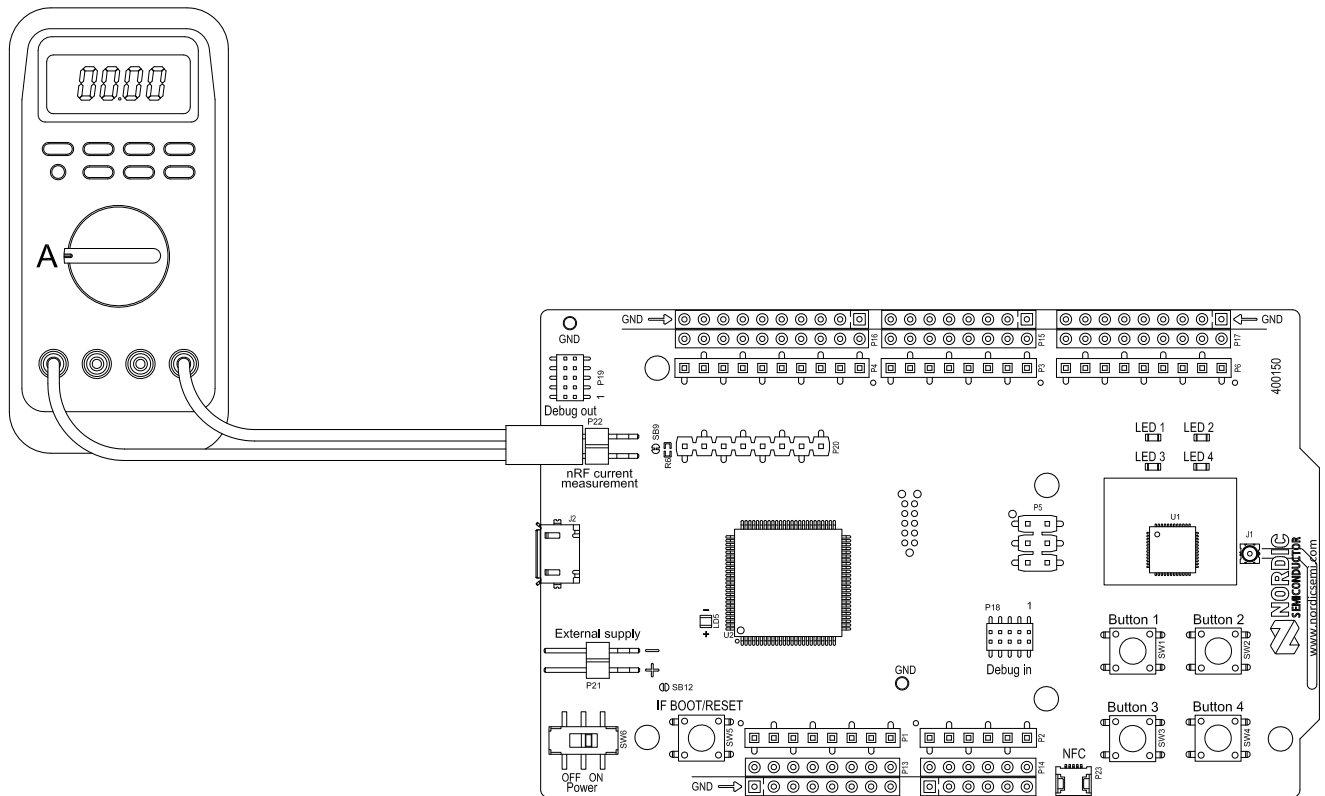

Figure 19: Current measurement with an ampere-meter
2. Connect an ampere-meter between the pins of connector **P22** as shown in Figure 19: Current measurement with an ampere-meter on page 23.